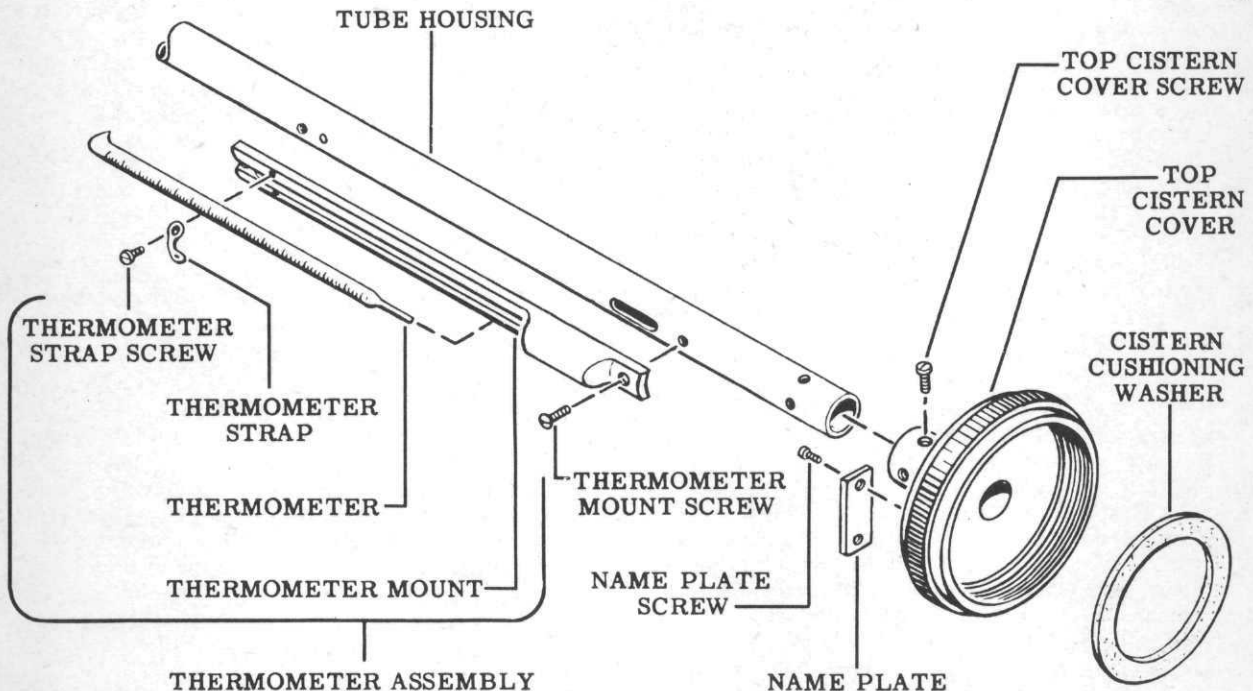

Figure 38
27. Assemble the name plate to the top cistern cover with the two name plate screws. See the exploded view, Fig. 38.
28. Assemble the top cistern cover on the tube housing, taking care to align the reassembly guide marks which were made during disassembly, on the tube housing and the cistern cover. Screw in the four top cistern cover screws. File the screws flush with the inner surface of the tube housing. Use the half round file with extension handle, Tool No. 10. Refer to the "Special Service Tool List" for details of this special tool. See the exploded view, Fig. 38.
places. See "Sealing Compounds" in the index of the Control Manual. Allow the shellac to become tacky; then assemble the washer, or washers, into the top cistern cover. Insure that the washer, or washers, firmly adhere to the cistern cover. See the exploded view, Fig. 38.
30. Place the thermometer carefully in the thermometer mount with its bulb end down. See the exploded view, Fig. 38.
31. Assemble the thermometer strap to the thermometer mount with the two thermometer strap screws. Insure that the thermometer scale is correctly positioned. See the exploded view, Fig. 38.
32. Assemble the thermometer assembly to the tube housing with two thermometer mount screws. File off these screws flush with the inner surface of the tube housing. Use the half round file with extension handle, Tool No. 10. See the exploded view, Fig. 38, and refer to the "Special Service Tool List" in Section VIII for details of the special tool employed here.